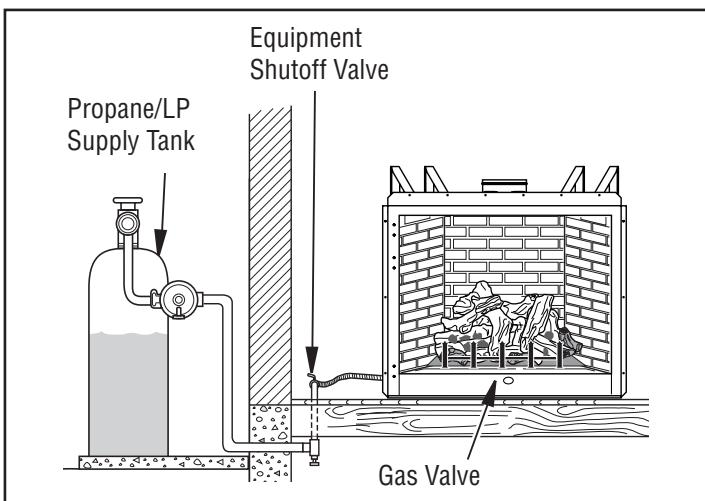
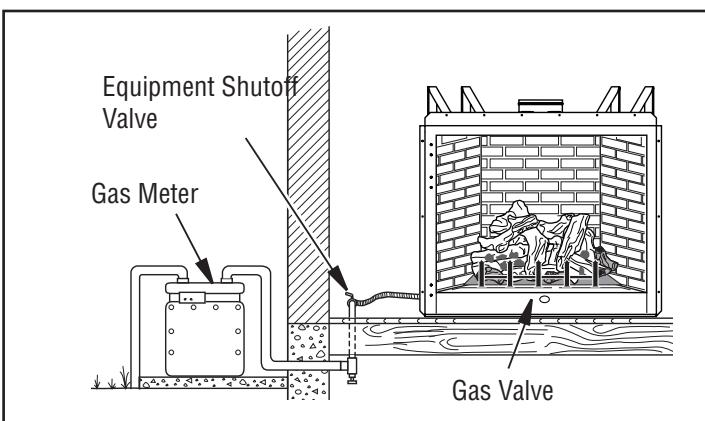

Figure 25 - Checking Gas Joints for Propane/LP Gas Fireplace
Figure 26 - Checking Gas Joints for Natural Gas Fireplace
3. Check all joints from propane/LP supply tank or gas meter to equipment shutoff valve (*see Figure 25 or Figure 26, Page 19*). Apply noncorrosive leak detection fluid to all joints. Bubbles forming show a leak.
4. Check all joints from equipment shutoff valve to gas valve (see **Figure 25 or Figure 26**). Apply noncorrosive leak detection fluid to all joints. Bubbles forming show a leak. Correct all leaks at once.